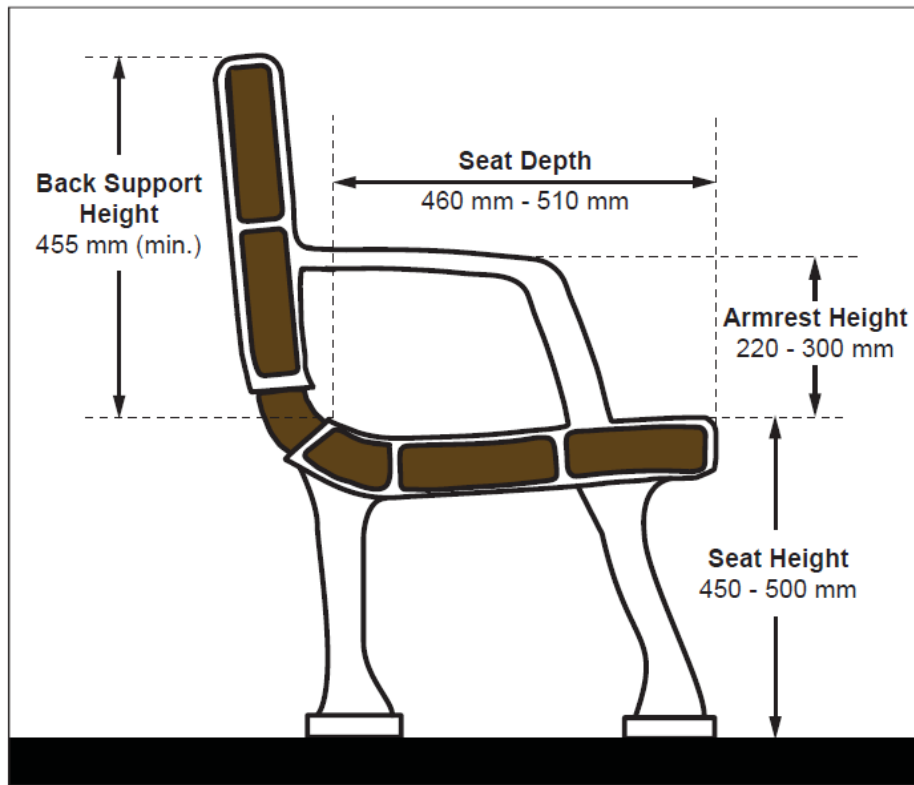

Figure 42: Typical Accessible Bench Dimensions – Section View
- Back support: Extend 455 mm above the seat surface or affix to a wall for stability (see Figure 42)